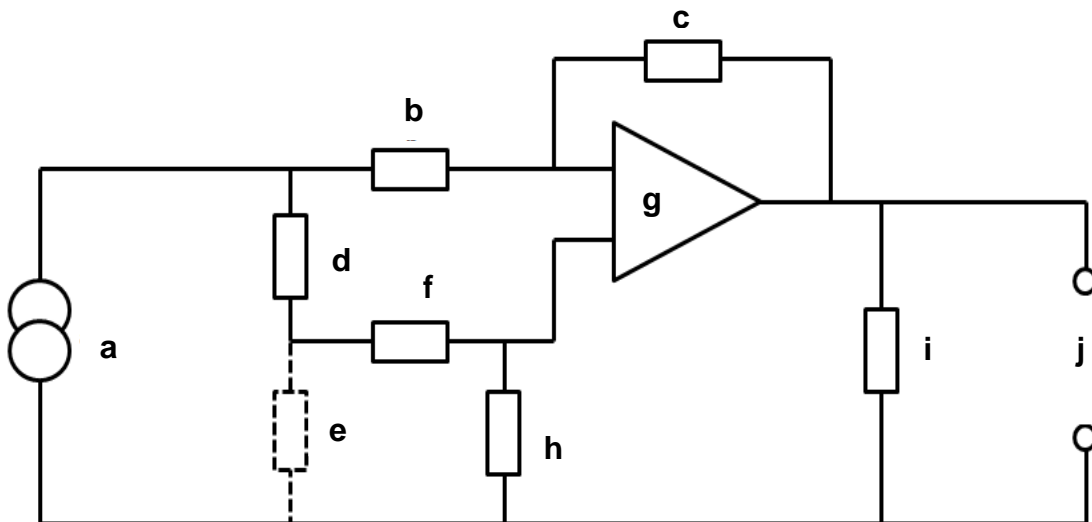

FIGURE 1
2.3 FIGURE 1 represents a network system used for one of the different interfacing processes.
2.3.2 Name the parts of the circuit diagram indicated in FIGURE 1 by writing only the answer next to the letter (a-j) in the ANSWER BOOK. (5)